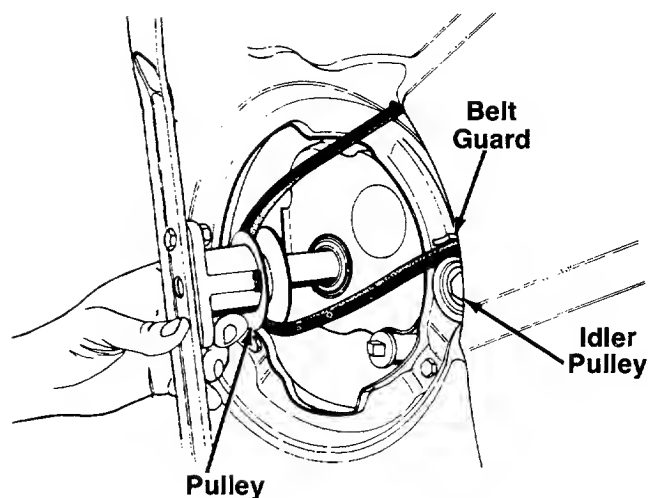

FIGURE 23.
- C. Release the idler pulley so it falls down into position. Slide the belt in between the idler pulley and belt guard on the idler pulley bracket as shown in figure 23.